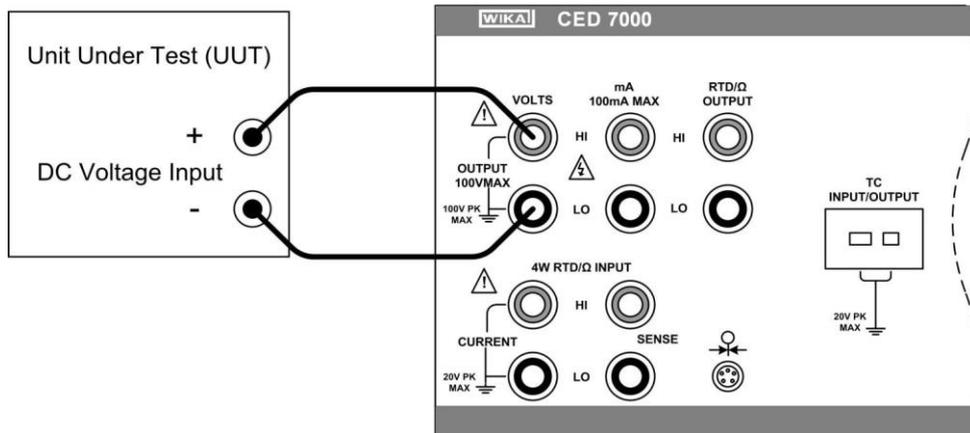

Figure 10 - DC Voltage Output Connection
- c) Connect the unit under test to the voltage output terminals of the CED 7000 as shown in figure 10.